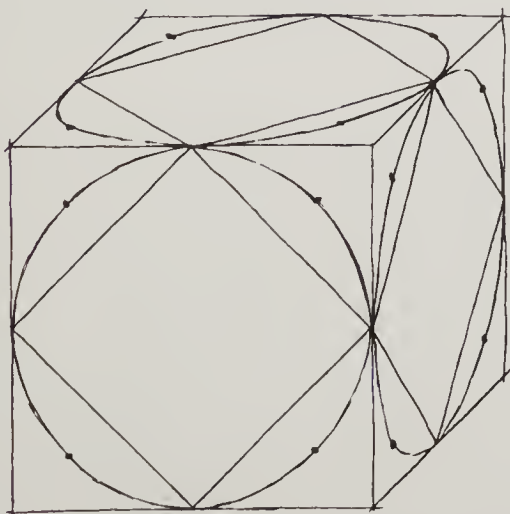

Fig. 13-10. Sketching oblique circles and arcs.
Circles and arcs in oblique are sketched as true circles or arcs in the front plane as mentioned earlier, Fig. 13-10. When these occur in the receding planes, they
are sketched in the same manner as isometric circles and arcs. Fig. 13-10 illustrates the procedure for sketching oblique circles and arcs.
1. Sketch an oblique square to contain circle, Fig. 13-10.